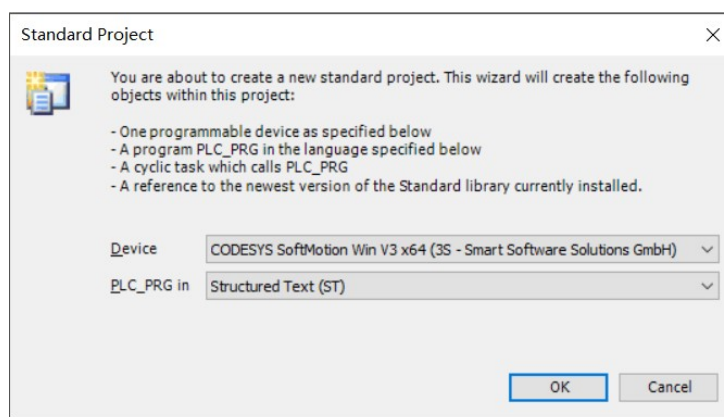

Figure 5-2-20 Select device and programming language
In the standard project window, select "CODESYS SoftMotion Win V3" as the device, and choose "Structured Text (ST)" as the programming language for PLC\_PRG, as shown in Figure 5-2-20.